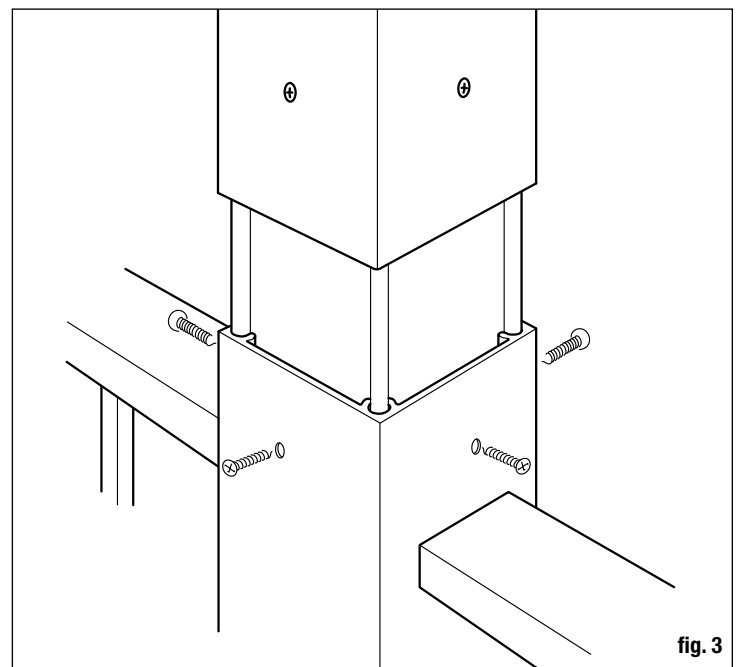

fig. 3
Step 4 Slide the inserted coupler out from the post extension so that it extends 6" and the predrilled holes line up. Secure the coupler to the post extension in this position using 4 of the #10 x ¾" screws, one on each side (fig. 3).